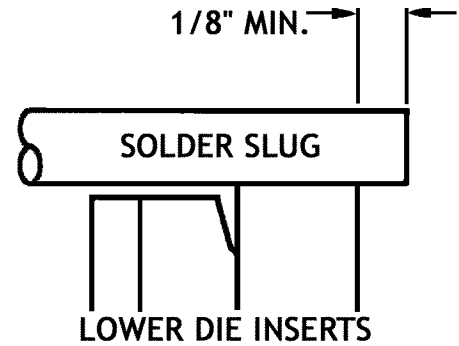

Fig. 3
3. Insert the proper diameter size solder (as listed in the **Reel Smart™ System Reference Table** above) between die inserts so it extends about 1/8" beyond the back of the die inserts (See Figure 3).